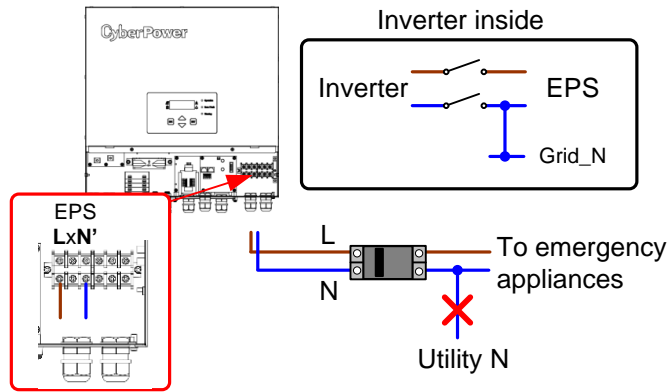

Fig. 3-7 EPS N connect to Grid N inside the inverter
- Connect to Grid-N, refer to Fig. 3-7, connects to L and N’ terminals. Must set EPS N wiring as “To G_N”. AC bypass function can be enabled.